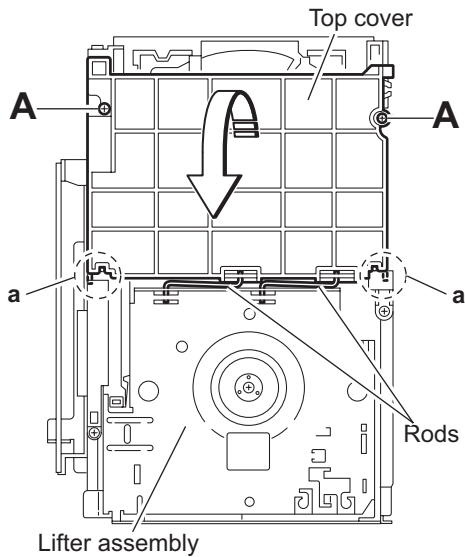

Fig.1
(See Figs.1 to 5)
- (1) Remove the two screws **A** from the top cover and release the two joints **a** on the both sides of the DVD changer mechanism assembly. (See Figs.1 and 2.)
- (2) Remove the two rods from the top cover and remove the top cover from the lifter assembly. (See Figs.1 and 2.)